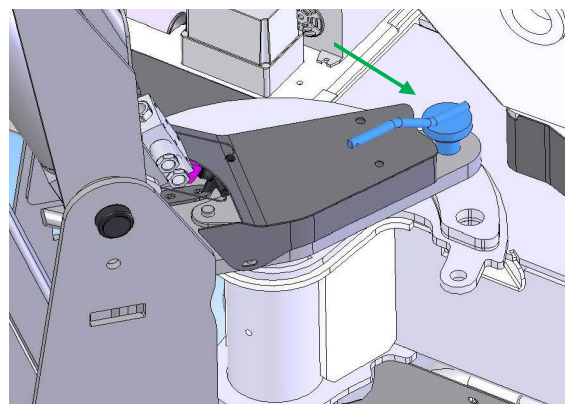

fig 3.8
Depending on the different needs, the stabilizers can be set-up on the ground with different positions, rotating their supports which connect them to the chassis. Once the desired position is decided, the pins must be inserted in the appropriate holes and the locking pin of the above mentioned supports to the chassis to maneuver the boom (Fig. 3.8).
- Be sure that all stabilizers pins are correctly inserted (Fig. 3.8).